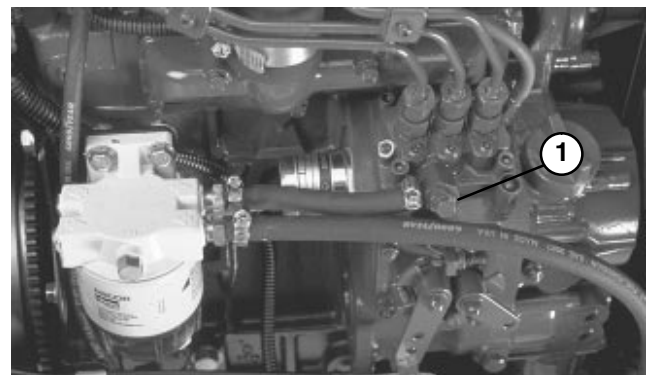

Figure 39
BLEEDING FUEL SYSTEM (Fig. 39)
3. Open the air bleed screw on the fuel injection pump (Fig. 39).